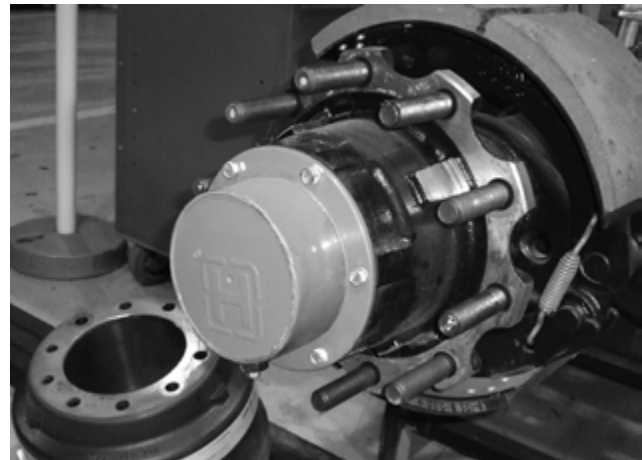

Figure 2: Brake drum removed
- A. **If drum brake, remove brake drum** (Figure 2).